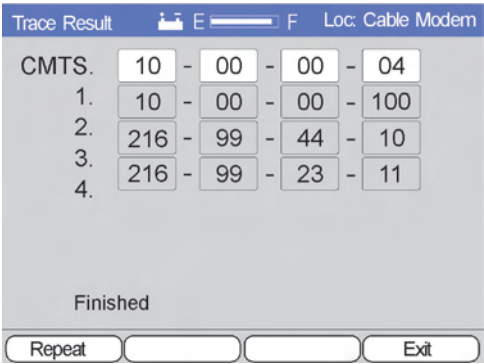

Figure 4-23
**Trace Route** - If the user selects TRACE (F3) from the Trace Address screen in Figure 4-22, the display will provide a list of the servers/routers along the data path between the CM1000 and the address selected or entered in the Trace Address screen. The TRACE RESULT screen is shown in Figure 4-23.